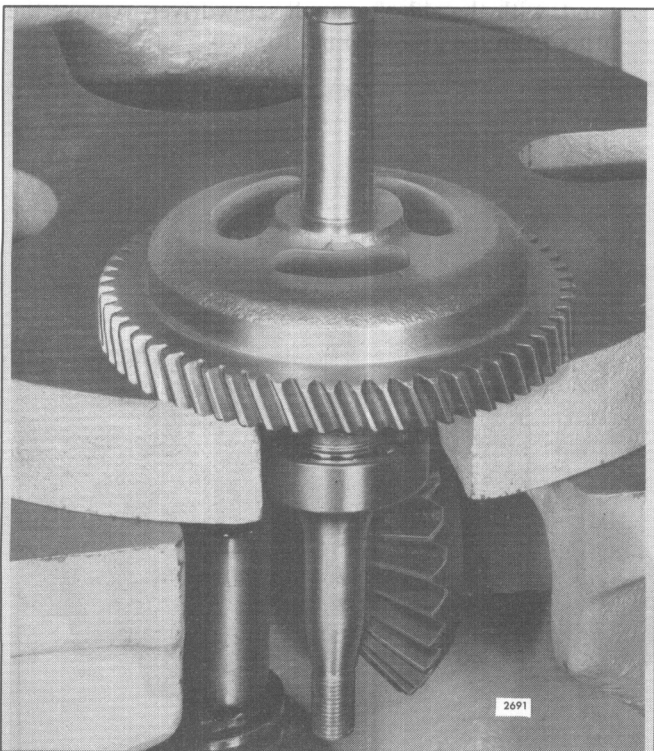

Fig. 11 – Pressing Shaft Out of Gear
6. Place the gear on the bed of an arbor press with the shaft extending downward, then place a short piece of .625" diameter bar stock between the shaft and the ram of the press and press the shaft out of the gear (Fig. 11).
7. Place the gear on the bed of an arbor press with the shaft extending downward. Then, place a short piece of .625" diameter bar stock between the shaft and the ram of the press and press the shaft out of the gear (Fig. 11).